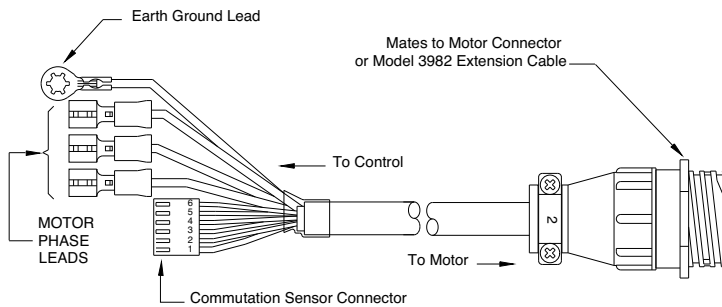
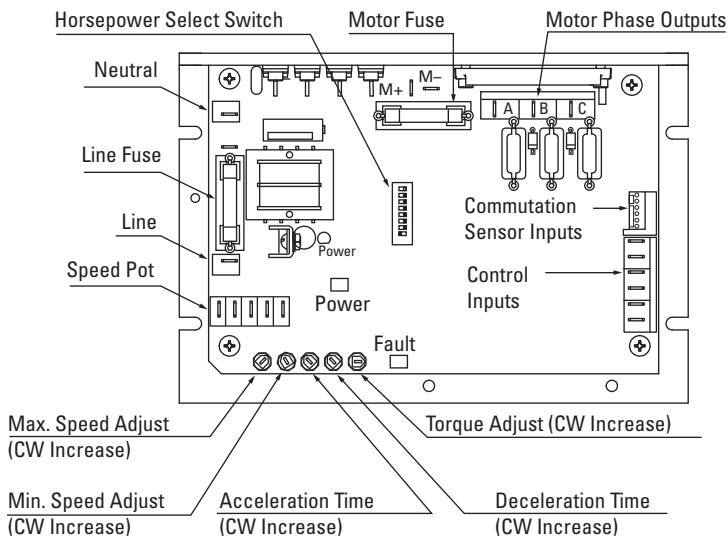

Figure 3 – Model 3983 Cable Assembly
Figure 4 – Control Circuit Board Detail
- Model 3983 Connection Cable Assembly — one end equipped with circular connector; other end equipped with quick disconnects for phase leads and connector for commutator leads. Length: 6ft. (See Figure 3)
The Model 3983 Cable Assembly, shown in Figure 3, is designed to simplify the electrical connections to the ABL-3910C Control. One end of the cable which connects to the motor is terminated with a circular type connector. The other end which connects to the control has a six-pin rectangular connector, three individual motor phase leads with quick disconnects, and an earth ground lead.
The commutation sensor leads are prewired in the Model 3983 cable assembly and terminated in a six-pin connector (Figure 3). There is a corresponding “Commutation” connector on the main control board (Figure 4). Mate the polarized cable connector to the “Commutation” connector on the control board. The connectors can only mate one way.
The ABL-3910C unfiltered control utilizes quick connect terminals on the main control board. Refer to Figure 4.
The location of line fuse (F1) is shown in Figure 4. It should always be replaced with a fuse of the same type and rating. Its rating can be determined by referring to the chart in Figure 6.
The location of motor fuse (F2) is shown in Figure 4. The fuse rating will vary with the size of the motor used. To determine the proper fuse rating, locate the first four digits of your motor’s type number on the motor nameplate. Find the same four digits in the chart in Figure 6 to determine the fuse size. The ABL-3910C is supplied without motor fuses.
The ABL-3910C unfiltered control utilizes quick connect terminals. Refer to Figure 4.